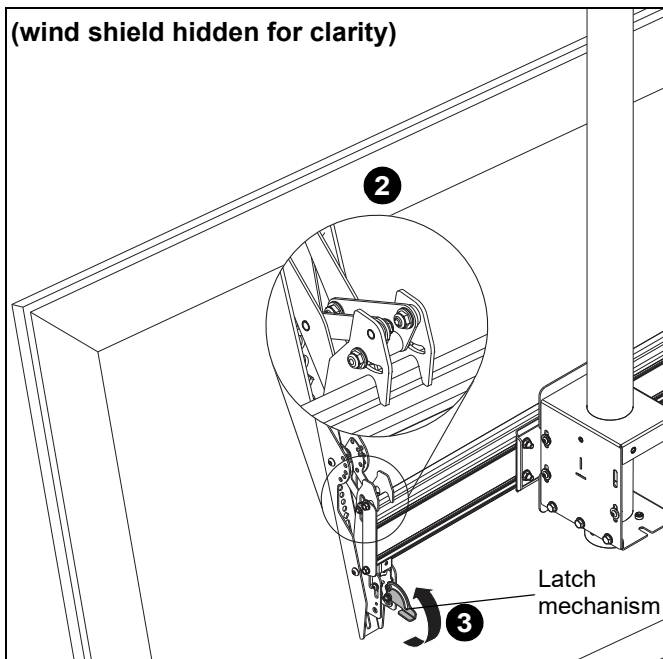

Figure 17
2. While supporting both sides of display, lower display onto ceiling mount, hooking top of interface brackets onto front of ceiling mount. (See Figure 17)
3. Raise the latch mechanism on both interface brackets to lock bracket in place. (See Figure 17)